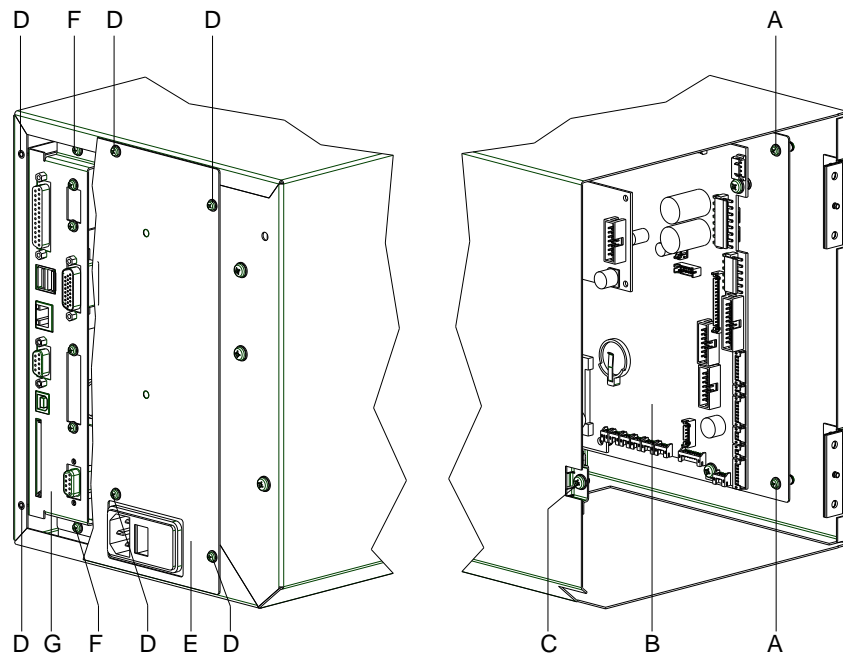

Figure 13
1. Insert the connection plate (G, Figure 13) with both PCB into the print mechanics.
2. Fix the connection plate with the screws (F, Figure 13).
3. Attach all connection assemblies at the CPU (B, Figure 13) corresponding to the wiring plan (see chapter 9.1, page 63).
4. Mount again the cover plate (E, Figure 13) with the screws (D, Figure 13).
5. Close module cover carefully and fix it with screw (C, Figure 13).